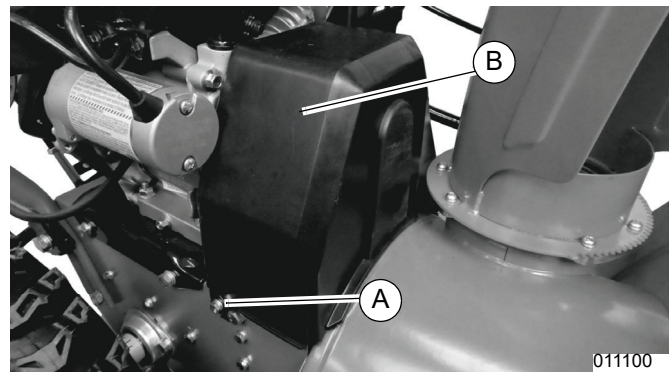

Figure 4-12. Removing Belt Cover
1. See Figure 4-12. Remove the two bolts and rectangular washers (A) from belt cover (B) using a 10mm wrench. Remove belt cover.